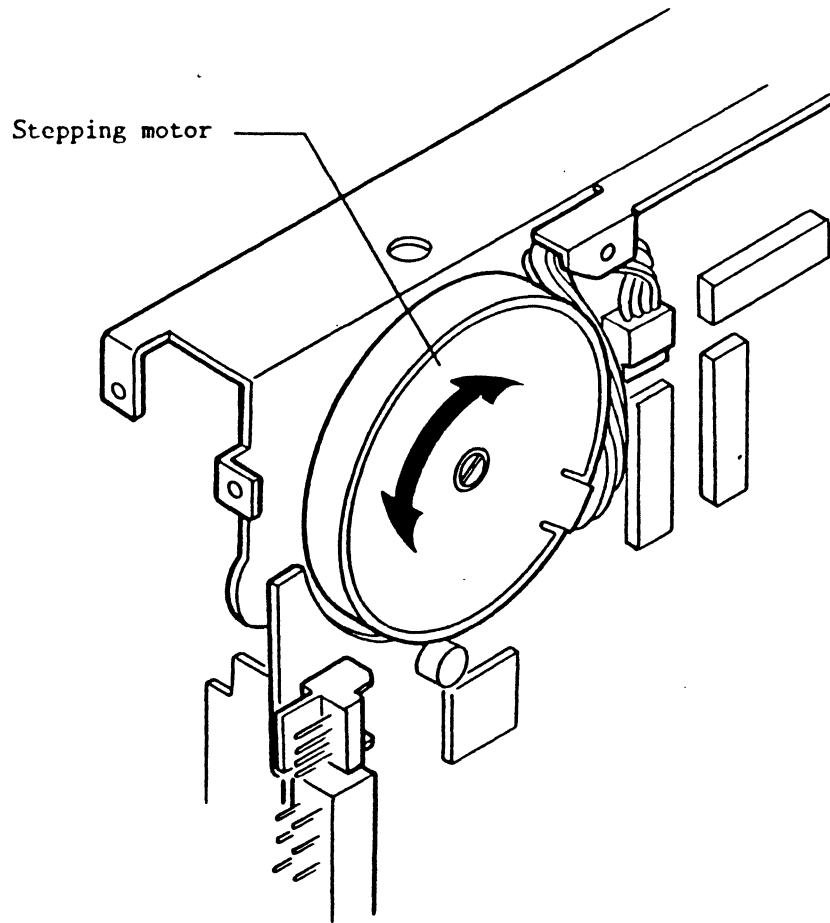

Fig. 413 Adjusting Track Alignment
- (10) In case of a double side Floppy Disk Drive, perform (3)~(9) for side 0 and 1 heads separately.
- (11) If (9) and (10) are not satisfactory, adjust the track alignment referring to the procedure shown below.
- (b) Repeat stepin and stepout actions and, on the alignment inspection track position, minimize the alignment error in both stepin and stepout directions by turning the stepping motor little by little. (See Fig.413)